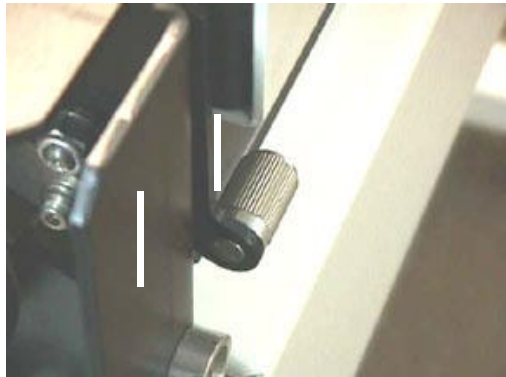

Fig. 4
- ∑ When the cam follower is in the correct position, the front edge of the latch will be approximately parallel with the front edge of the chassis frame and the latch knob approximately 1/16"-1/8" away from the knife stiffener. (See Fig. 4 and 5)